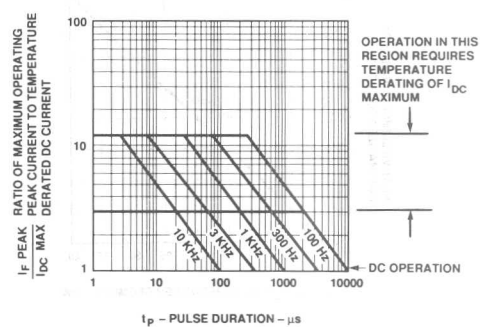

Figure 11. Maximum Tolerable Peak Current vs. Pulse Duration - Green.
3. See Figure 11 to establish pulsed conditions.
6. See Figure 11 to establish pulsed conditions.